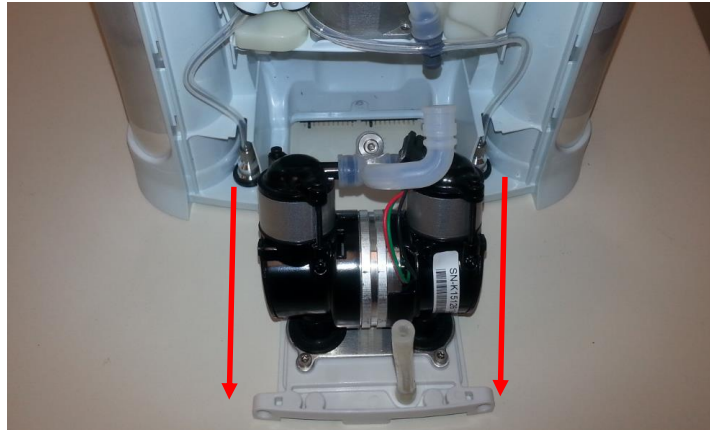

Figure 7: Removal of compressor assembly
7. Slide the filter body, filter, compressor, and dual feed tube out of the device as a single unit (Figure 7).